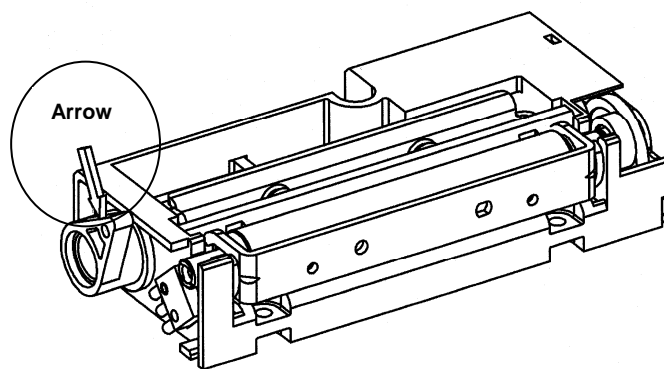

Figure 8-1 Loading Paper (1)
- Turn the release lever in the direction of the arrow shown in **Figure 8-1**.
- 1) Turn the release lever in the direction of the arrow shown in **Figure 8-1**. After confirming that the platen block has separated from the printer mechanism, lift the platen block up.